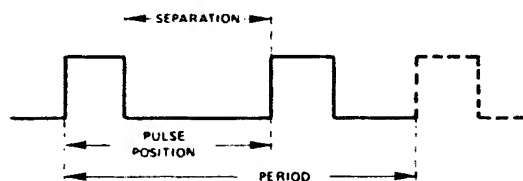

Figure 3-3. Timing parameters in Double Pulse Mode.
- the minimum separation between the first and second pulse (see figure 3-3) is the minimum setting of the selected pulse position range e.g. in 1m-10m pulse position range, minimum separation is 1ms.